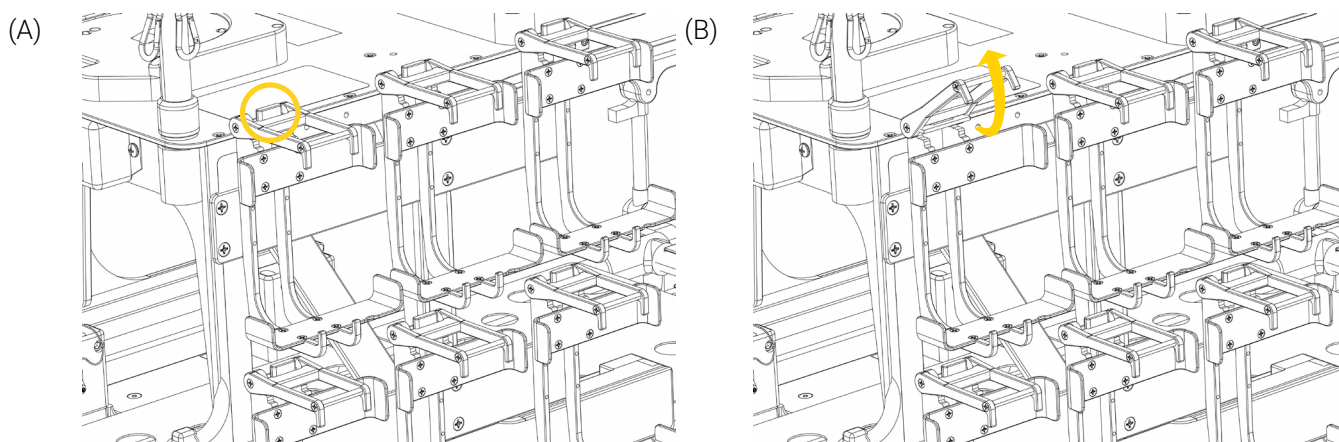

Figure 14: Opening the pump bracket
1. Pull the quick release mechanism on the pump bracket forward (Figure 14 A), then lift the top part of the bracket to open it (Figure 14 B).